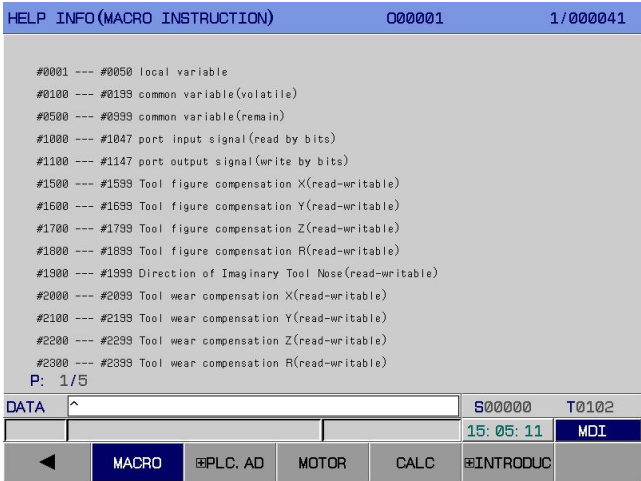

Fig.3-9-7
6. Macro command interface: Press  to enter the [Macro Command] help information (macro command table) interface, as shown in Fig.3-9-7: